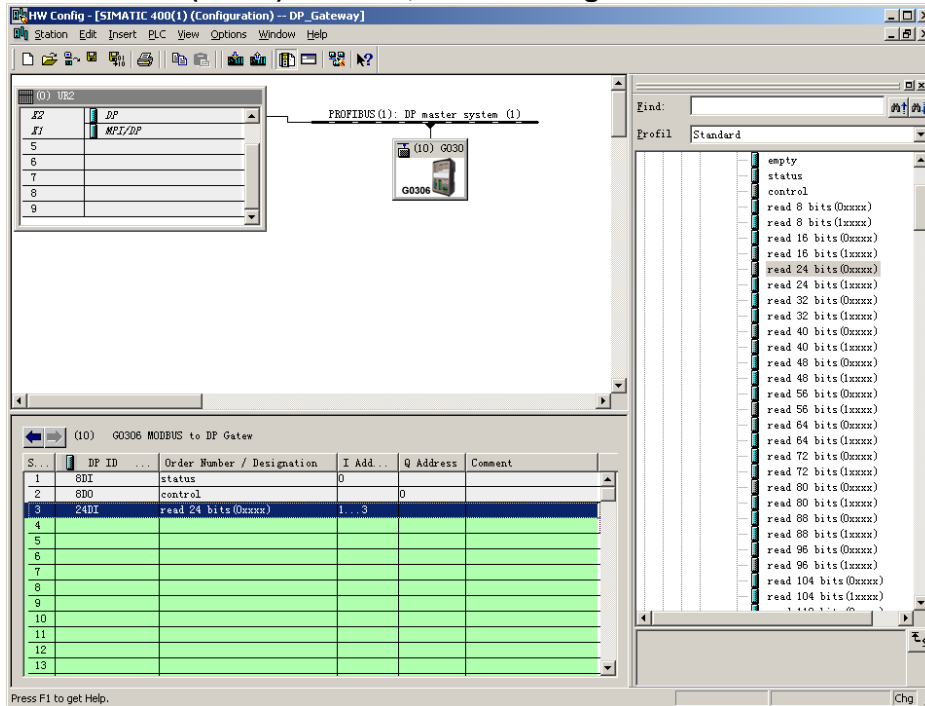

Figure 16 Add“read 24 bits(0xxxx)”Module
a) Add “read 24 bits(0xxxx)” module, shown as Figure 16: